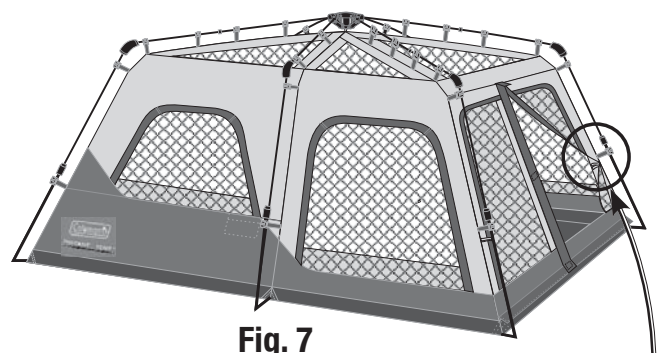

Fig. 7
- Verify the clips along the edges of the tent are properly attached to the leg poles. (Fig. 7 and 8)
- Remove rainfly from the tent. (Fig. 7)